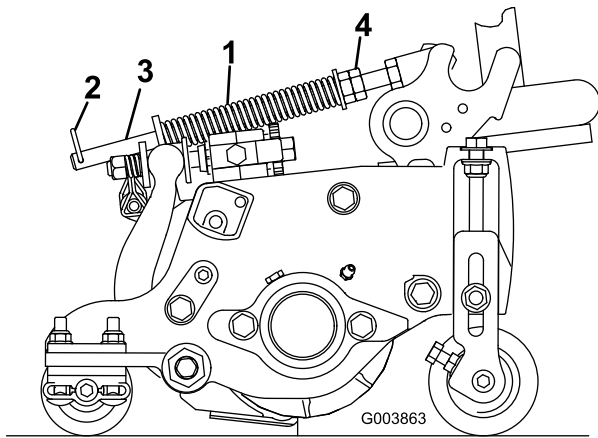

Figure 15
The turf compensation spring (Figure 15) transfers weight from the front to the rear roller. (This helps to reduce a wave pattern in the turf, also known as marcelling or bobbing.)
1. Make sure the hairpin cotter is installed in the rear hole in the spring rod (Figure 15).
2. Tighten the hex nuts on the front end of the spring rod until the compressed length of the spring is 5 inches (12.7 cm) on Reelmaster 5210 & 5410, 5 inch cutting units or 6.25 inches (15.9 cm) on Reelmaster 5510 & 5610, 7 inch cutting units (Figure 15).